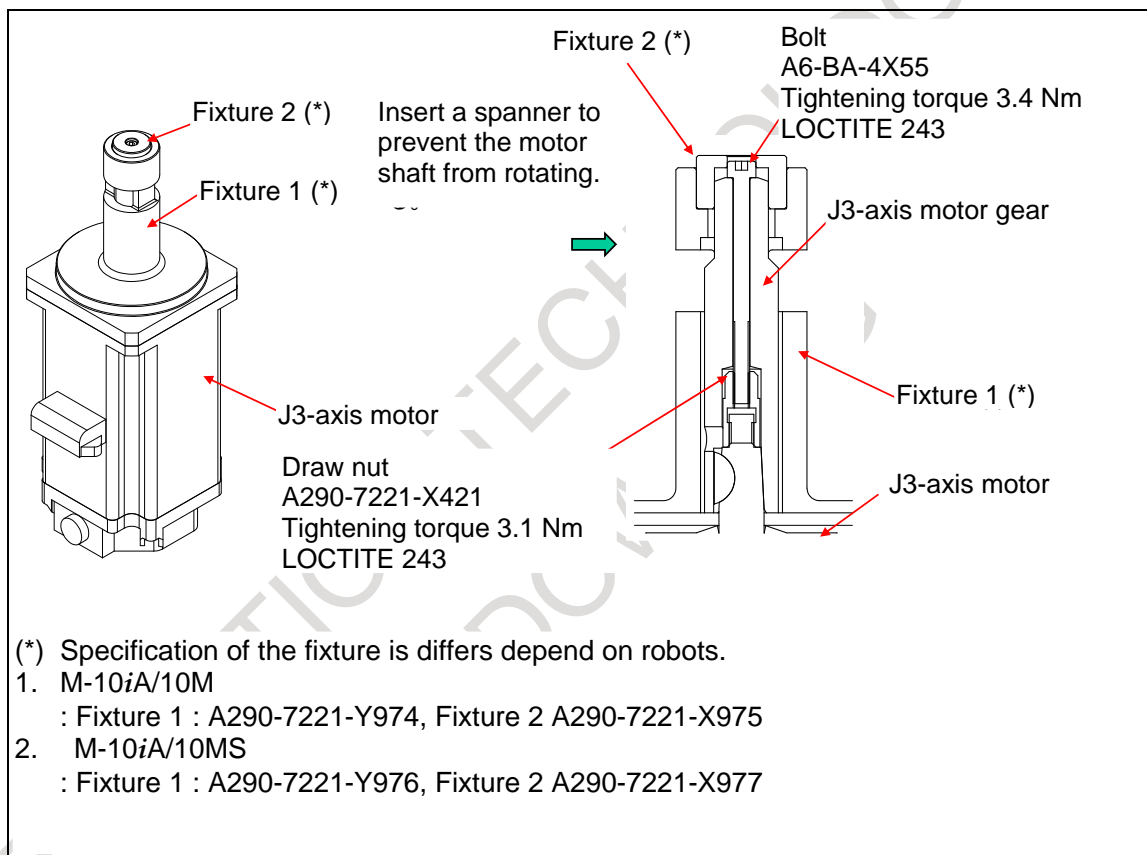

Fig. 7.7 (a) Attaching the gear on the J3-axis motor
- 3 Mount fixture to motor as Fig. 7.7 (a) for centering.
- 4 According to Fig. 7.7 (a), apply LOCTITE 243 to thread and tighten bolt (M4 x 55) with regulated torque 3.4Nm while supporting gear with spanner wrench preventing the gear from rotating. (To prevent motor brake slips) Turn the torque wrench until you hear the ratchet sound. This completes setting of the gear on the motor taper shaft. Without this work might cause motor shaft failure. Be careful.